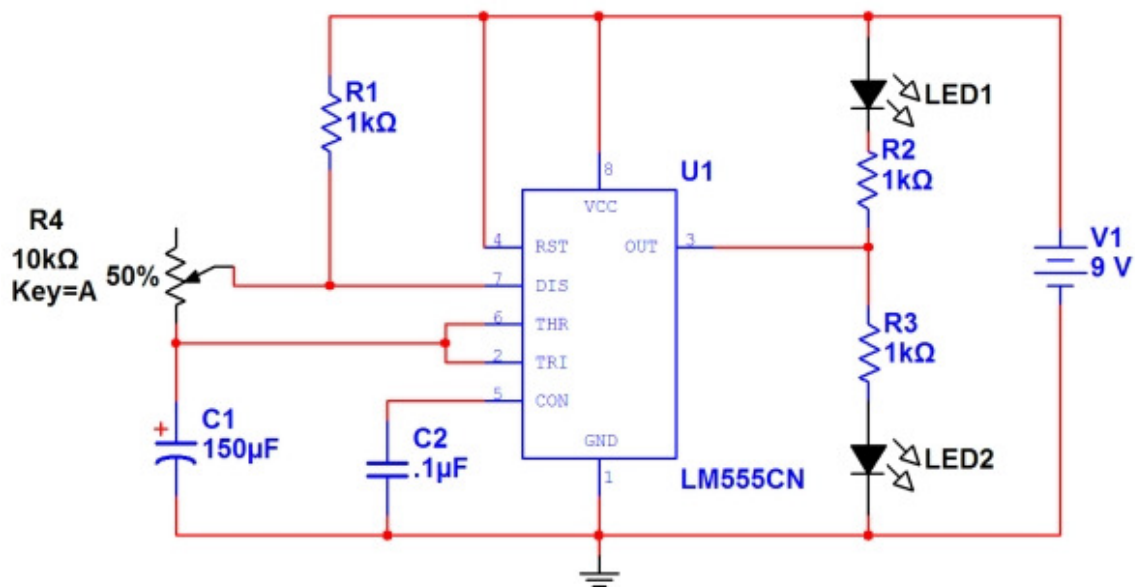

Figure 1: 555 timer circuit
Using the general layout in Figure 1, design a circuit, which will produce a TTL compatible signal. A TTL signal is a DC voltage that turns on and off at a regular rate like the pulse source we used in Lab 4. You are to design a circuit so that the TTL signal output will have a frequency range from 1Hz to 10Hz. This signal will drive two LED's which will alternately flash to indicate the high and low (on and off) states of the output (at Pin 3 on the 555 timer component "LM555CN").
1. Using the Multisim schematic capture program, enter the circuit that you designed in the pre-lab. Refer to Figure 1 to help you with parts placement and attributes. Below are some items to help you define certain elements of your circuit.